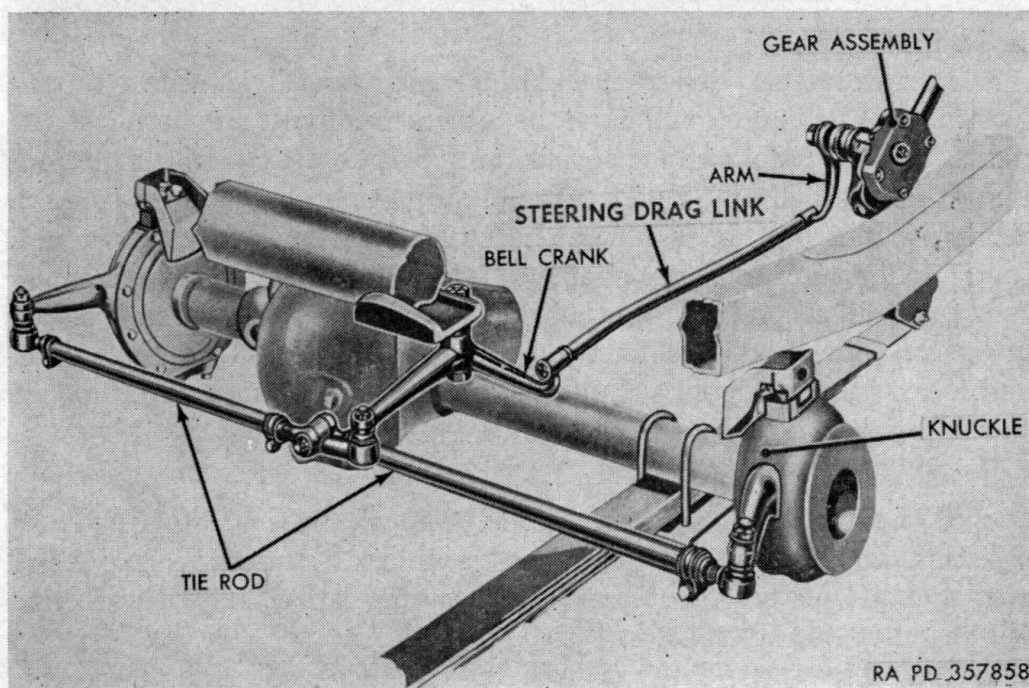

Figure 54. Steering system.
a. **DESCRIPTION.** The steering gear (fig. 54) is of the conventional type, mounted on the left frame side member, and connected to the front axle steering bell crank by a Pitman arm and steering connecting rod (fig. 54). The steering gear is of the cam and lever type with a variable-ratio cam. The steering wheel is of the 3-spoke, safety type, with a 17¼-inch diameter. The steering connecting rod is of the adjustable, ball-and-socket type.
ing rod (fig. 54). A systematic inspection for steering troubles is as follows:
(Fig. 54)
(Fig 54)
*a. REMOVAL.* Raise hood and tie to windshield. Disconnect the Pitman arm (fig. 54) from the steering drag link rod. Disconnect the horn wire by removing the two screws at steering column. Remove the oil gage sending unit. Disconnect the brake master cylinder vent tube (fig. 47). Remove the clutch and brake pedal pads.